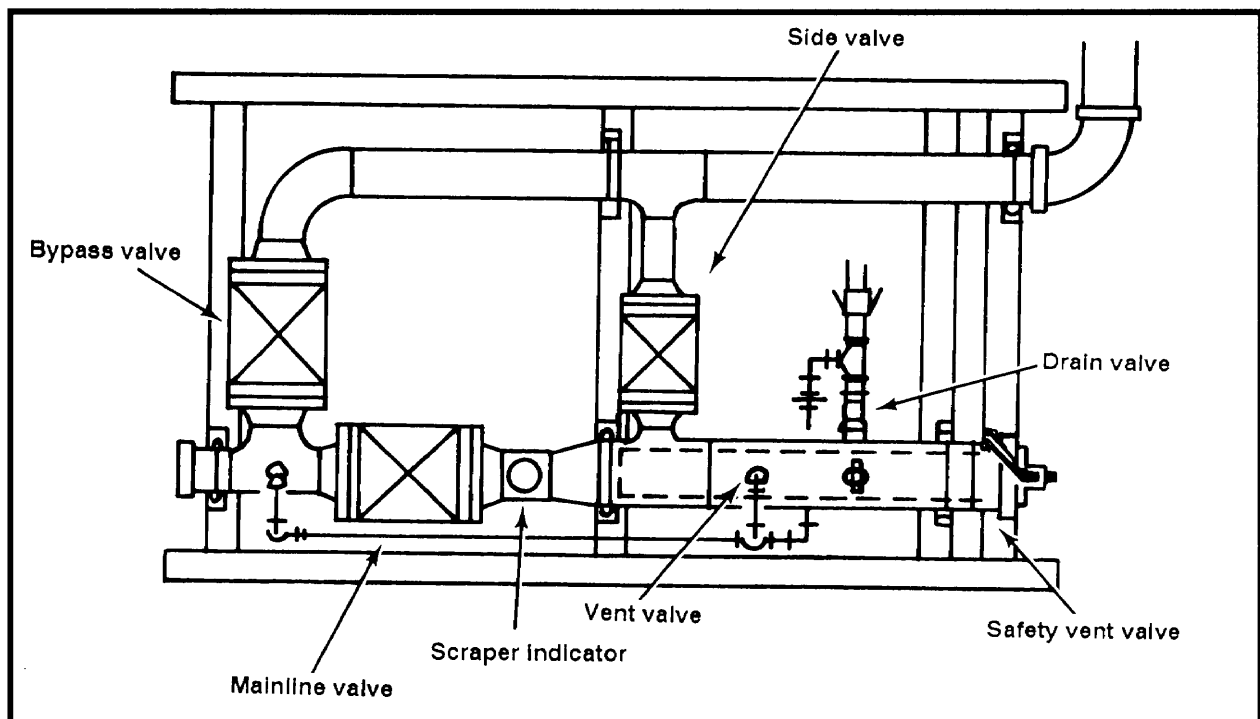

Figure 2-13. Scraper-receiver assembly
(11) Launcher and Receiver Assemblies. These assemblies are skid-mounted and are supplied with the IPDS for use in a scraper operation (Figure 2-13). Their function is essentially the same as the cleaner barrels. However, because these assemblies are preassembled with valves and scraper passage signals and are skid-mounted, they are more readily installed and simpler to operate and maintain. Currently, only a 6-inch design is available. Other sizes can be designed and manufactured. In an IPDS pipeline, a launcher assembly is installed immediately downstream of